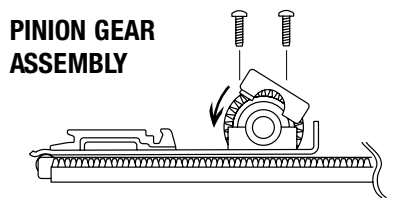

figure 7 HINGE ADJUSTMENT
- Hinge screws will allow for adjustment of the door in all three directions. (fig 7)